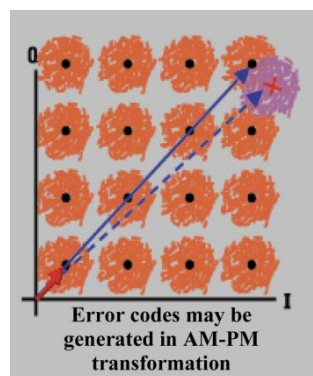

Fig. 8.18 Bit Errors in AM-PM Transformation
- 3) For the 64QAM signal (only the quadrant is drawn) shown in Fig. 8.18, bit errors occur in the statistics if the noise circles of each state are overlapped.